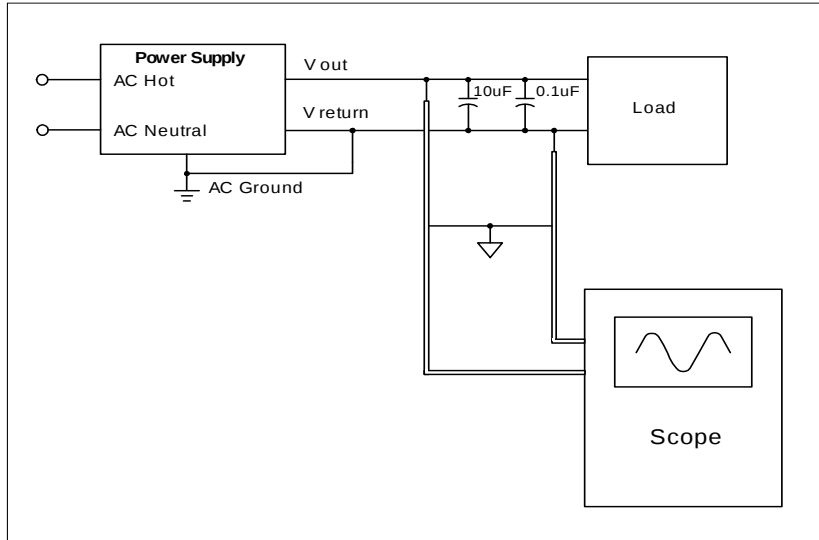

Figure 3. Ripple/Noise voltage test circuit
2.3.3 Figure 3. Ripple/Noise voltage test circuit